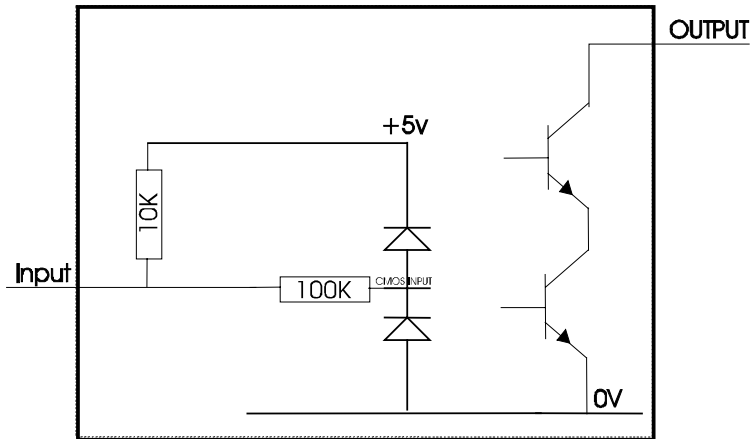

Figure 4 - Input and Output Circuit
**Caution:** The output low signal is affected by the value of the pull up resistor on the host machine interface. Ensure your signal LOW levels comply with the 74HC CMOS series specification for reliable operation, (see figure 4).